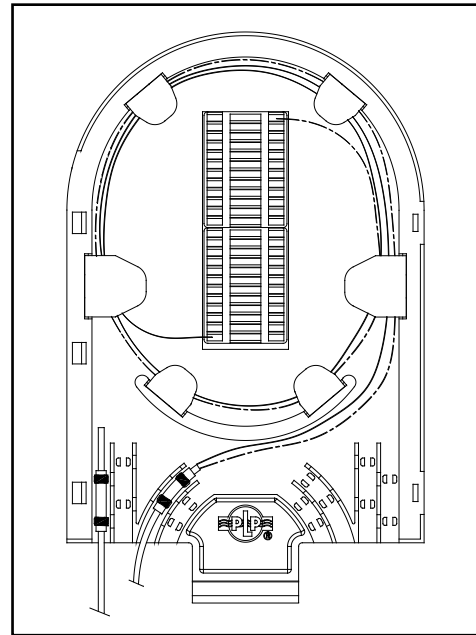

FIGURE 28 - ROUTING FIBERS FROM THE FIELD BUFFER
12.08 Route fibers 1-12 of the field buffer tube 1-1/2 times counter-clockwise around the splice tray entering the upper splice block from the right side. Route fibers 13-24 of the field buffer tube 1-3/4 times counter-clockwise around the splice tray entering the lower splice block from the left. (Figure 28)